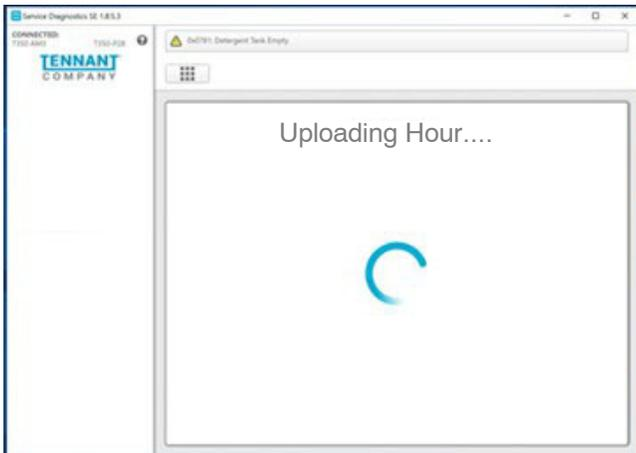

Fig. 19
14. Wait for the Upload Hour to complete (Figure 19).